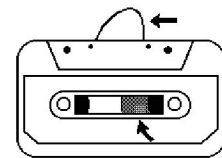
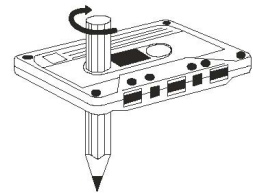

Fig.1
Fig. 2
- Check that there are no loose layers of tape visible through the cassette center window (see Fig. 1). Take up any loose layers, using a pencil or hexagonal barrelled ballpoint pen, before inserting the cassette into the machine (see Fig.2).
- If the cassette feels tight while performing operation shown (see Fig.2), the tape may be jamming due to ridges formed in the winding of the tape (visible through the center window). These may be removed, in most cases, by fast winding of the cassette from one end to the other and back again.